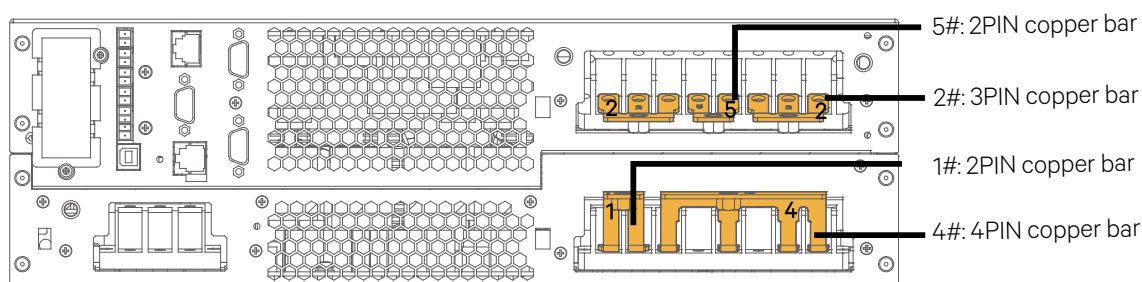

Figure 5-27 Changing power distribution mode
2. Install the shorting copper bus bars (1, 2, 4, 5) as shown in Figure 5-27. And then connect all the cables.